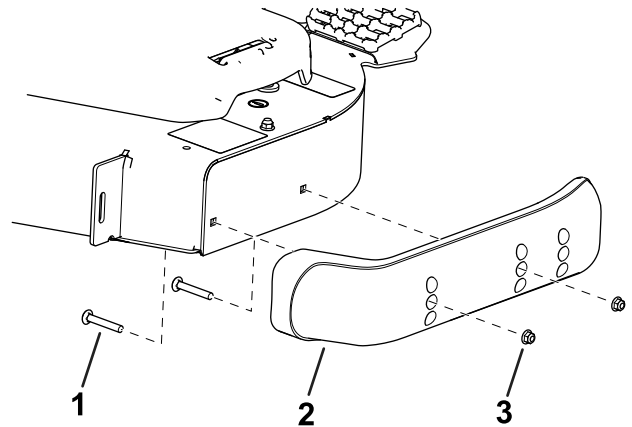

Figure 13
3. Move the skid to the desired position and secure it to the cutting unit with the flange-head bolts and nuts (Figure 13).